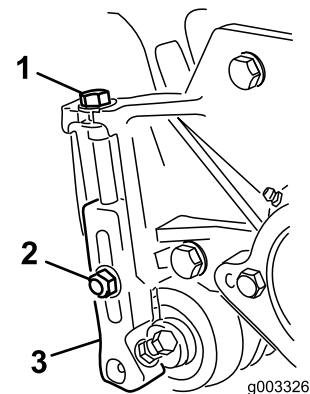

Figure 10
3. Loosen the locknuts securing the height-of-cut brackets to the cutting-unit side plates (Figure 10).